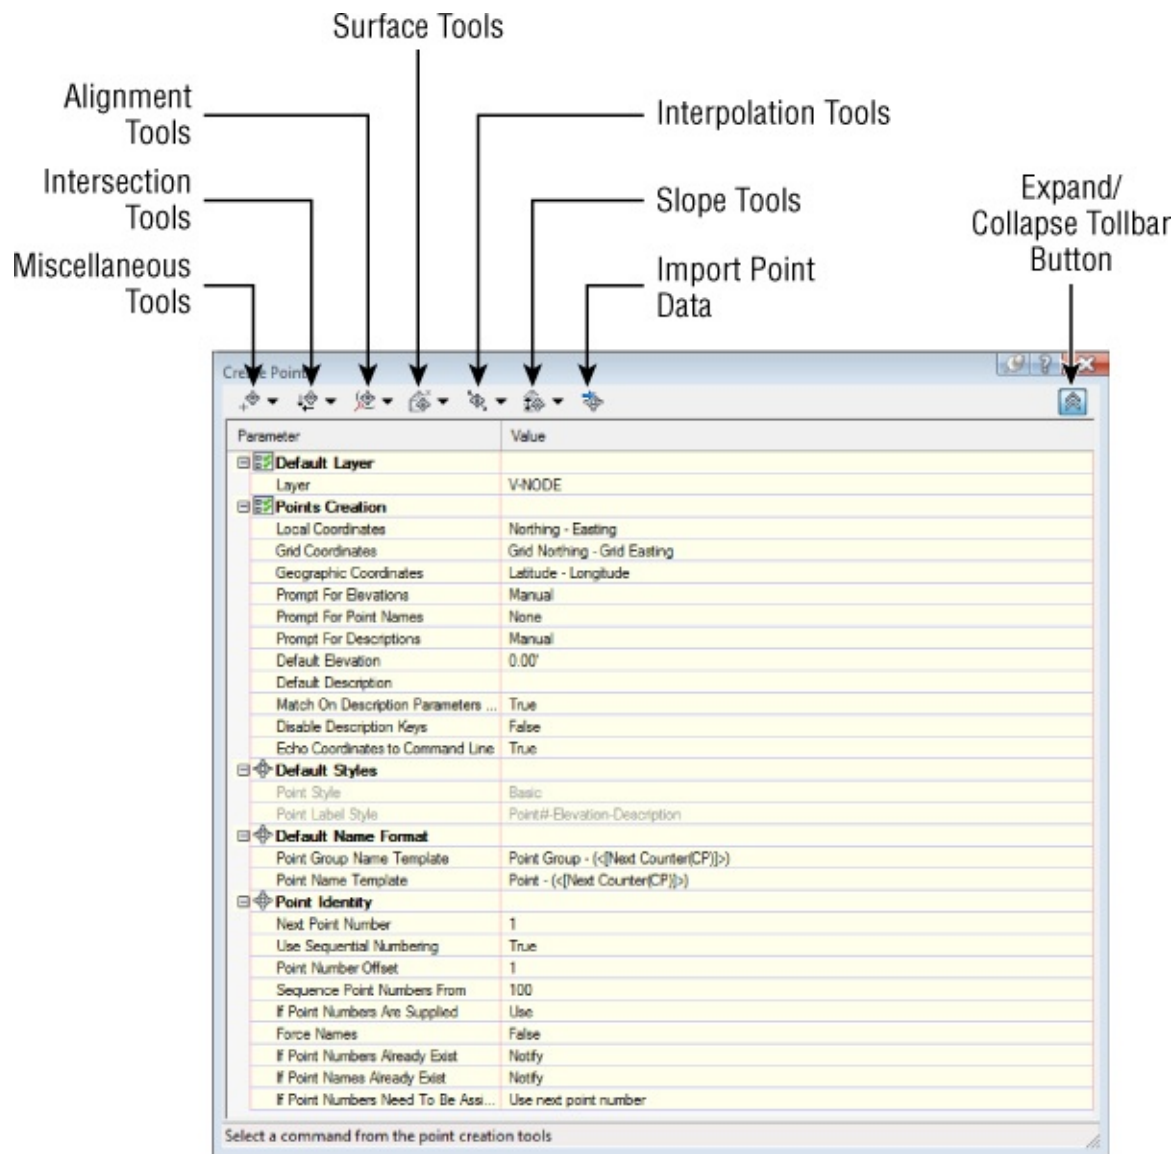

Figure 3.4 Overview of the Create Points toolbar
- 3. Expand the toolbar by clicking the chevron button on the far-right side (Figure 3.4).